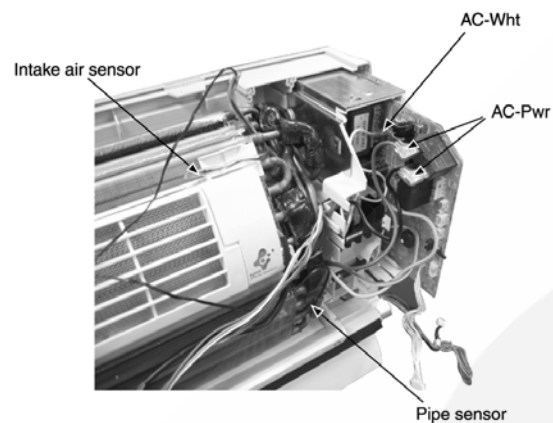

Fig. 5
- Press the hook to the right then take out the PCB. (Fig. 5)
- Release Ry-Pwr connector (black and brown) and Ac-Wht connector from the PCB. (Fig. 5)